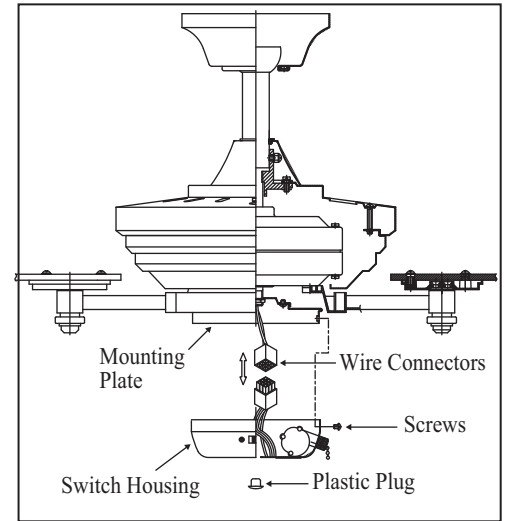

Figure 19
2. Attach the additional plastic plug to the switch housing. (Fig. 19)
3. Holding the switch housing under your fan, snap together the wire connection plugs. (Fig. 19)
4. Install the switch housing to the mounting plate with screws provided. (Fig. 19)